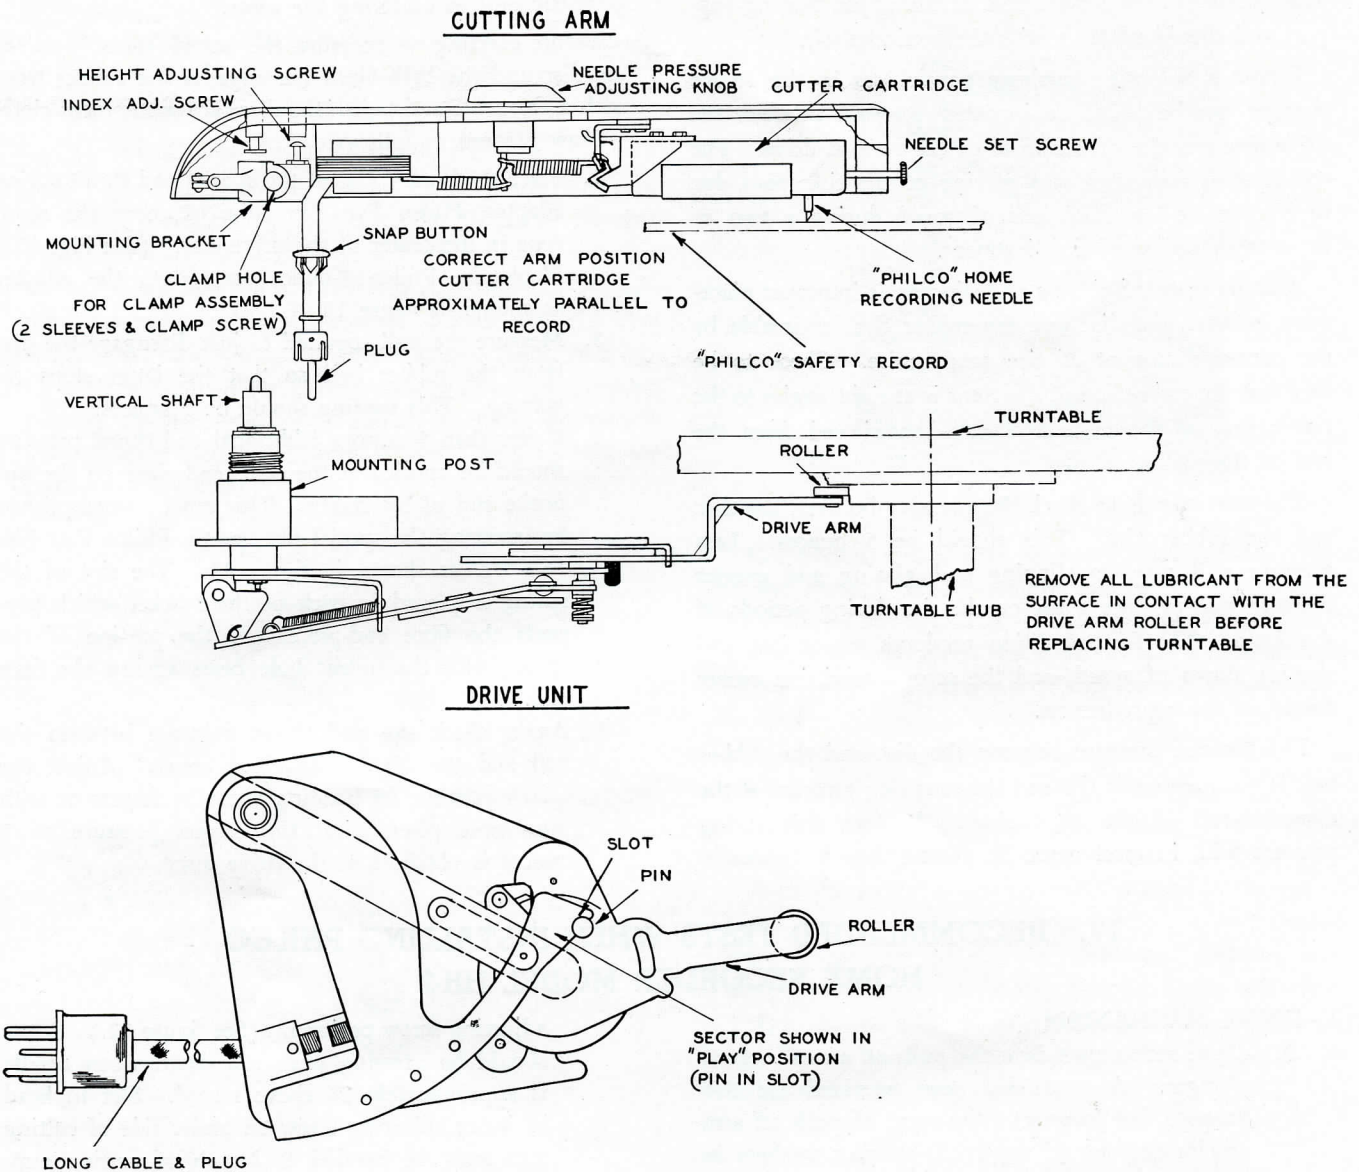

FIG. 12
- A. Drive sector must clear the push off arm of record changer. A notch has been provided for this purpose, but incorrect adjustment of push off arm and/or the use of too many spacing washers in the mounting at Hole "C" of the drive mechanism may cause the point of sector to strike push off arm. Readjust this arm in accordance with Figure 12. Check mounting of drive mechanism. Push-off arm may be filed slightly to clear if necessary.
adjusting screw position. (See figure 12.) Screw should be pressing push rod down when needle is approximately 1" above record. Slot in head of index adjusting screw on under side of cutting arm must be parallel to length of cutting arm. This index release causes throw-out bar to engage drive pulley with driving sector.